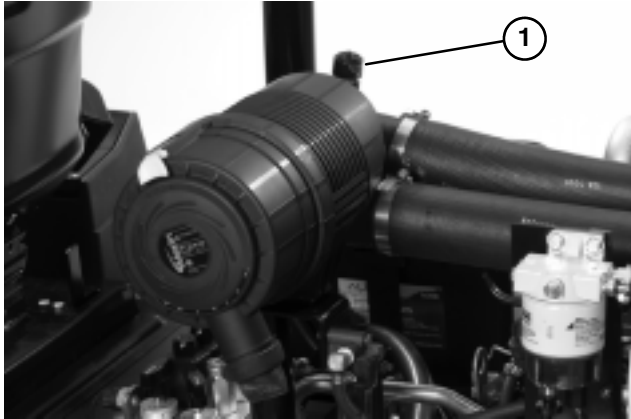

Figure 41
Service the air cleaner filters whenever air cleaner indicator (Fig. 41) shows red or every 400 hours (more frequently in extreme dusty or dirty conditions). Do not over-service the air filter.
9. Reset indicator (Fig. 41) if showing red.